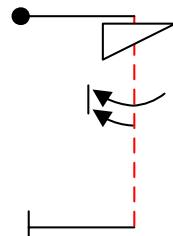
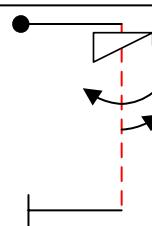

Fig. 53
Fig. 54
- d) Either aileron rolls or snap rolls may follow spin elements (Family 9.11 or 9.12). A spin and a roll combined on the same vertical downline will always be unlinked. They may be flown either in the same or opposite direction, as shown by the position of the tips of the symbols on the Aresti diagram. The spin will always be the first element with a maximum of 2 turns. It can be followed by a second rotational element like a roll or a snap roll also limited to a maximum of 2 turns (Fig. 53). Adding a third rotational element will make the maneuver illegal, i.e. a one turn spin combined with one opposite roll and one opposite half roll (Fig. 54).